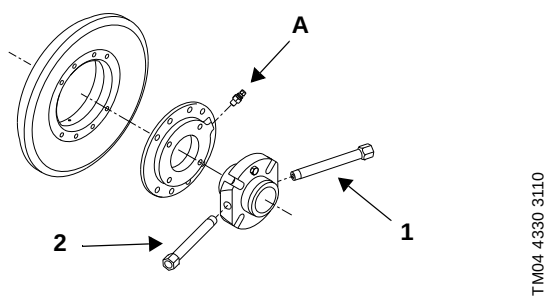

Fig. 4 Back-to-back seal arrangement with cartridge seal
1	Connecting the barrier fluid supply pipe - Connect one end to the seal chamber (pos. 1, fig. 2) or to the cartridge seal (pos. 1, fig. 4). - Connect the other end to the outlet of the dosing pump.
3	Filling with barrier fluid - Start the dosing pump. - Fill with barrier fluid. Seal chamber: Loosen the vent screw at the top of the seal chamber (pos. 2, fig. 2), and fill the seal chamber with barrier fluid through the inlet (pos. 3, fig. 2). When the liquid starts running out of the vent hole, immediately close the vent screw. Cartridge seal: Fill the cartridge seal with barrier fluid through one of the connections (pos. 1 or 3, fig. 4). When the liquid starts running out of the vent hole, immediately close the vent screw. The dosing pump will stop automatically when the pressure set in step 2 has been reached.
4	Operation with positive inlet pressure - Loosen the vent screw (pos. A, fig. 2 or fig. 4) in the cover. - Close the isolating valve on the discharge side. - Open the isolating valve on the inlet side. - Slowly fill the pump with the liquid to be pumped. - When the liquid starts running out of the vent hole, immediately close the vent screw. Operation with suction lift - Loosen the vent screw (pos. A, fig. 2 or fig. 4) in the cover. - Close the isolating valve on the discharge side. - Fill the pump and the inlet pipe with the liquid to be pumped using a funnel. - When the liquid starts running out of the vent hole, immediately close the vent screw. Note: A non-return valve must be fitted to the inlet pipe.
5	Starting up the pump See also installation and operating instructions for NK, NKG pumps. - Open the isolating valve on the discharge side. - Start the pump, and check the direction of rotation. - See the correct direction of rotation on the motor fan cover. - After a few minutes, vent the pump again by means of the air vent screw (pos. A, fig. 2 or fig. 4).
Operation with positive inlet pressure - Loosen the vent screw (pos. A, fig. 2 or fig. 4) in the cover. - Close the isolating valve on the discharge side. - Open the isolating valve on the inlet side. - Slowly fill the pump with the liquid to be pumped.
1	Operation with suction lift - Loosen the vent screw (pos. A, fig. 2 or fig. 4) in the cover. - Close the isolating valve on the discharge side. - Fill the pump and the suction pipe with the liquid to be pumped using a funnel. - When the liquid starts running out of the vent hole, immediately close the vent screw.
5	After a few minutes, vent the pump again by means of the vent screw (pos. A, fig. 2 or fig. 4).